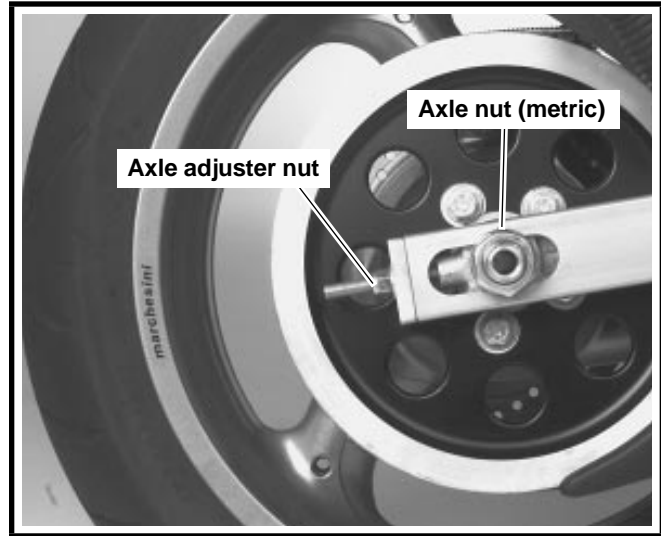

Figure 6-12. Secondary Drive Belt Adjustment
3. See Figure 6-12. Loosen rear axle nut (metric). Reduce tension on secondary drive belt by turning axle adjuster nuts on each side of swingarm an equal number of turns counterclockwise. Move rear wheel as far forward as possible.